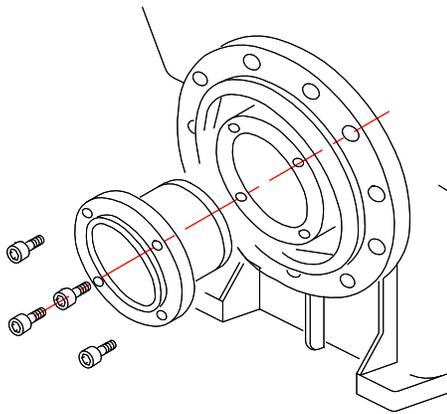

Fig. 23
- Remove the four mounting bolts (Fig. 23).